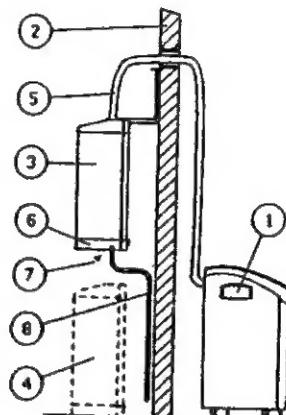

Figure 4. Installation
Determine whether the outdoor unit is to be suspended from the window or the wall, or placed on the floor near a doorway. Be sure the outdoor unit is stable and well supported at its place of installation (see Figure 4).
In high humidity conditions, the outdoor unit condensate basin (6) may overflow. If condensate leak occurs, it is recommended to use a permanent drain tube. Remove plug (7 see Figure 4), located under the unit, and fit instead a 13-mm OD hose (8), routed to a drainage point.